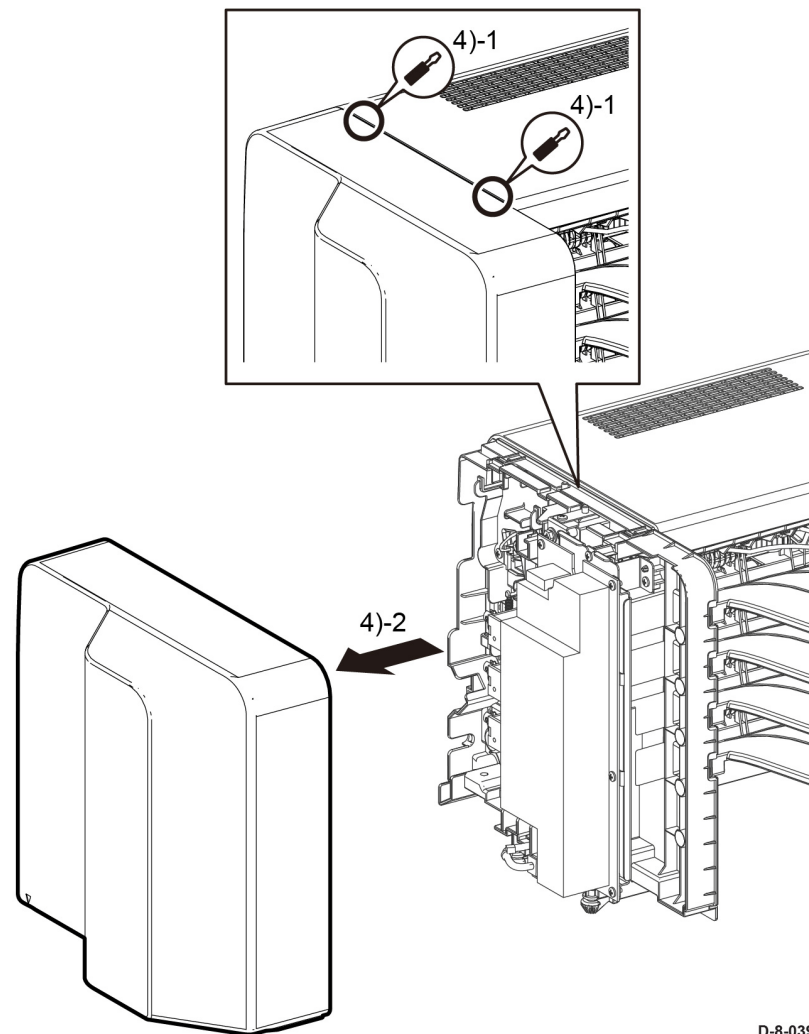

Figure 2 Left cover removal
3. Turn the mailbox right side up as shown in Figure 2.
4. Perform the items that follow, Figure 2: